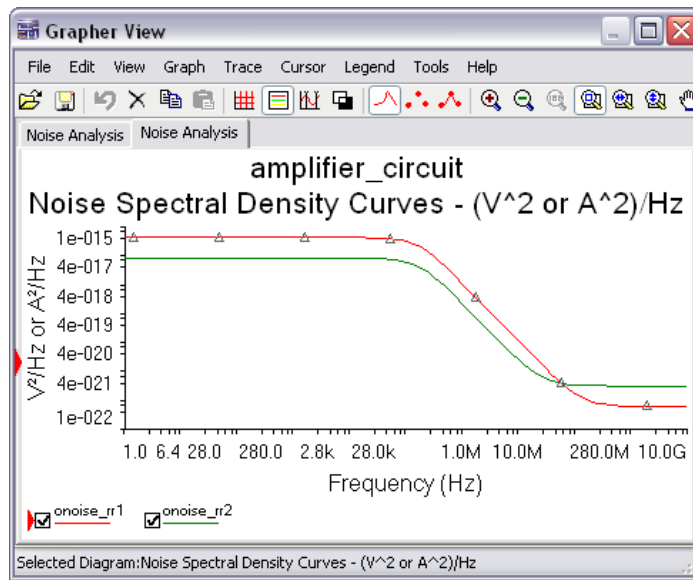

Figure 7. Noise spectral density curves.
1. Click **Simulate**. The **Grapher View** shows the noise spectral density curves (Figure 7).